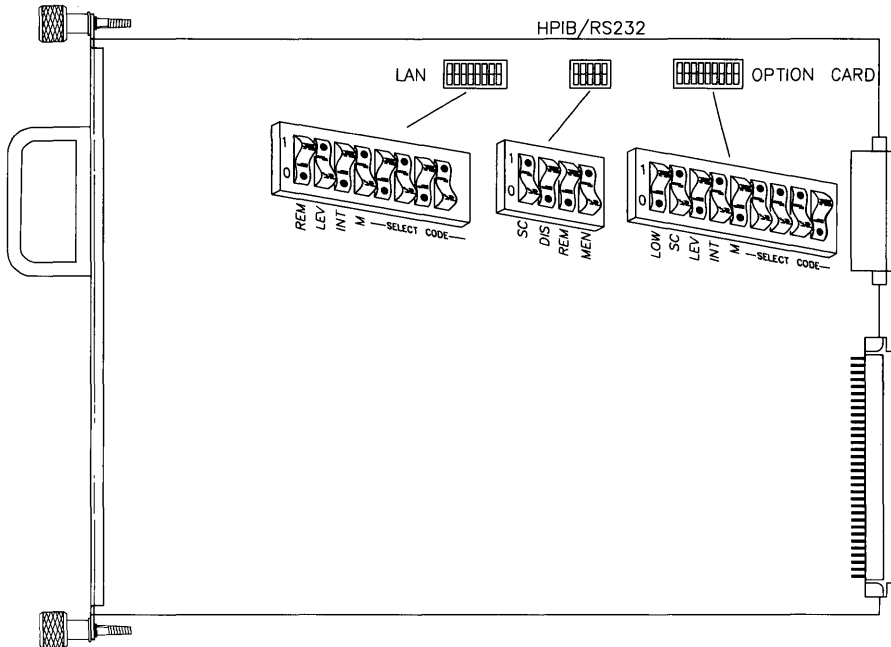

Figure 5-19. Human (System) Interface board switches
- a. Find the group of four switches labeled **HPIB/RS232**. The switch labeled **SC** in this group is the System Controller switch (see figure 5-19).
- b. If connecting two computers together via HP-IB, only one of them may be set to system controller. To change this interface to non-system controller, move the System Controller switch to the **0** position (the opposite of that shown in figure 5-19).
- a. Find the group of four switches labeled **HPIB/RS232**. The switch labeled **DIS** in this group is the RS-232C Disable switch (see figure 5-19).
- b. To disable the RS-232C Serial interface, move the **DIS** switch to the **1** position (the opposite of that shown in Figure 5-19).
If you later want to enable the RS-232C Serial interface, move the switch back to the **0** position as shown in figure 5-19.
- a. Find the group of four switches labeled **HPIB/RS232**. The switch labeled **REM** in this group is the Remote Terminal Enable switch (see figure 5-19).
- If you are connecting a terminal to this interface and want this terminal to be the system console, set this switch to **1**, which is the *opposite* of that shown in Figure 5-19.
- If you are connecting a terminal to this interface but **do not** want this terminal to be the system console, or if you are connecting any other device, set this switch to **0** as shown in Figure 5-19.
- a. Find the group of four switches labeled **HPIB/RS232**. The switch labeled **MEN** in this group is the Modem Lines Enable switch (see figure 5-19).
- If you intend to connect an HP 2601A printer, an HP 2686A *Laserjet* printer, an HP 92205A/C Hayes *Smartmodem*, or a *uucp*, set this switch to **1** as shown in Figure 5-19.
- If you intend to connect a terminal or the HP 39800/01A bar code reader, set this switch to **0**, which is the *opposite* of that shown in Figure 5-19.
- a. Find the group of eight switches labeled **LAN**. The five switches labeled **M** (for Most-significant bit) and **SELECT CODE** in this group are the LAN Select Code switches (see figure 5-19).
- a. Find the group of eight switches labeled **LAN**. The two switches labeled **INT** and **LEV** in this group are the LAN Interrupt Level switches (see figure 5-19).
- a. Find the group of nine switches labeled **OPTION CARD**. The five switches labeled **M** (for Most-significant bit) and **SELECT CODE** in this group are the Select Code switches (see figure 5-19).
- a. Find the group of nine switches labeled **OPTION CARD**. The switch labeled **SC** in this group is the System Controller switch (see figure 5-19).
- b. If connecting two computers, only one of them may be set to system controller. To change this interface to non-system controller, change the System Controller switch to **0** (the opposite of that shown in figure 5-19).
The Low/High Speed switch is preset to **0**, “high speed,” as shown in Figure 5-19. This setting is appropriate for most applications. If you want to change this setting, continue with step 12; otherwise skip to step 13.
- a. Find the set of nine switches labeled **OPTION CARD**. The switch labeled **LOW** in this group is the Low/High Speed switch (see figure 5-19).
- To set this switch to “low speed,” set the **LOW** switch to **1**, which is opposite of that shown in Figure 5-19.
- To set this switch to “high speed,” set the **LOW** switch to **0** as shown in Figure 5-19.